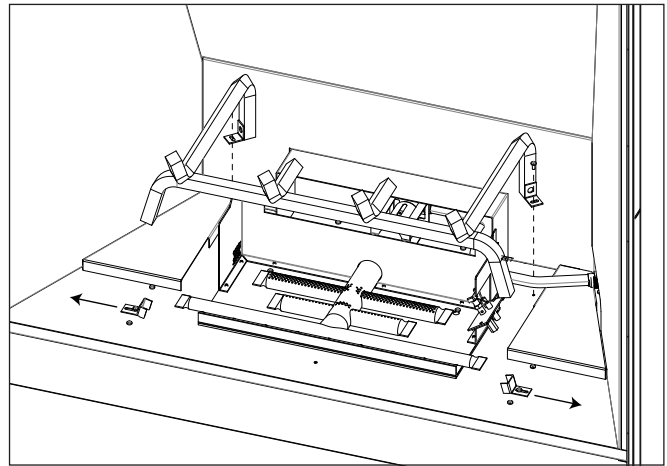

Figure 8: Log Grate Removal
5. Remove the Log Grate by removing the two (2) T-20 screws at the rear of the grate and loosening the two screws holding the log grate clamps in place near the front of the grate (see Figure 8).